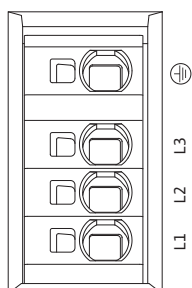

Fig. 33: Borne electrice (borne de rețea)
- Borne electrice (borne de rețea) (Fig. 33)